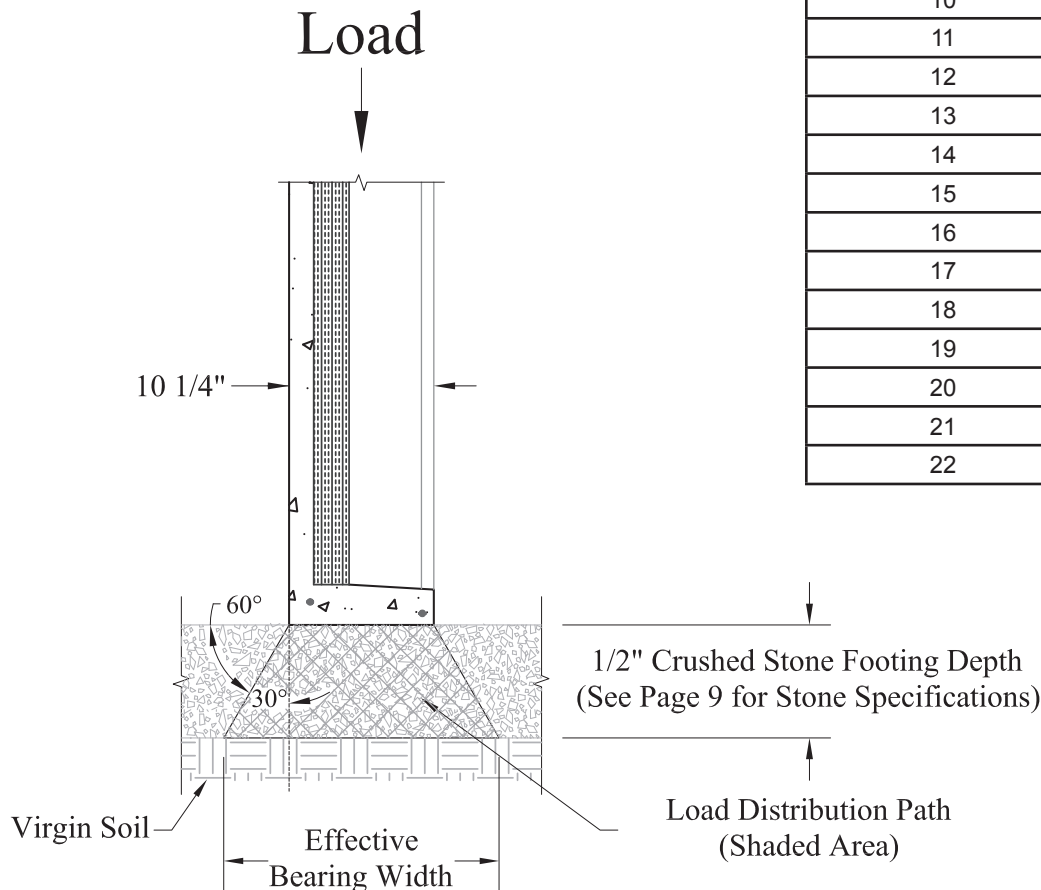

Figure 1
4. As the depth of the crushed stone layer increases, the effective bearing width on the underlying soil also increases. (See Figure 1.)
- When the Minimum Depth of the 1/2" Clean Crushed Stone Footing is greater than 20", the pipe must be located at a greater distance than one foot (12") to ensure that the pipe is not located within the Crushed Stone Footing "Load Distribution Path". (See Figure 1.)